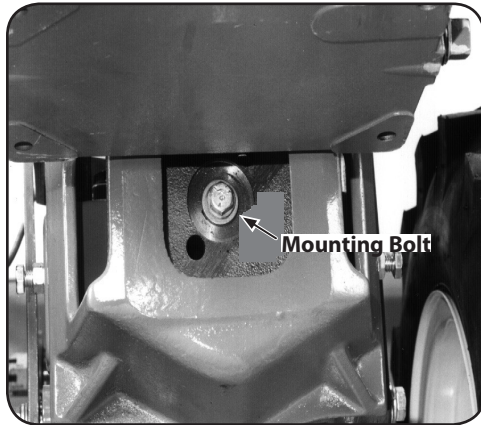

Figure 5-1
- If the washer behind the bolt head is loose, the bolt needs tightening. To do this, first insert a punch or thick screwdriver into the hole next to the bolt and wedge the tool against the side of the motor mount casting. This immobilizes the pulley while you tighten the bolt. See Figure 5-1.